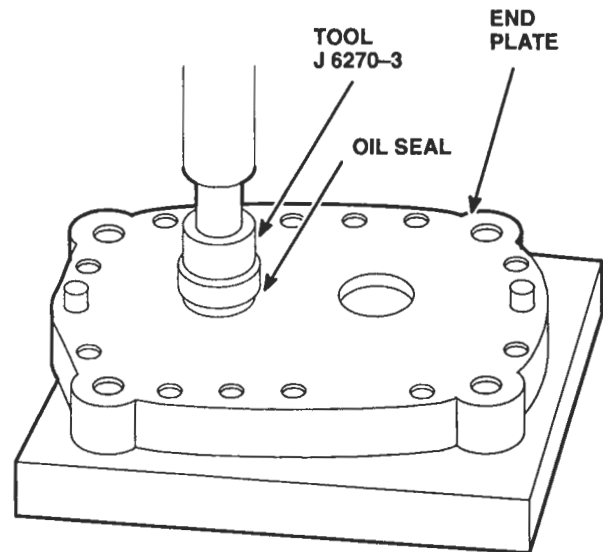

Figure 13. Installing Oil Seal in Blower End Plate
- c. Place the short end of oil seal remover and installer J 6270-3 in the oil seal and press the oil seal into the end plate until the shoulder on the installer contacts the end plate (Figure 13.)